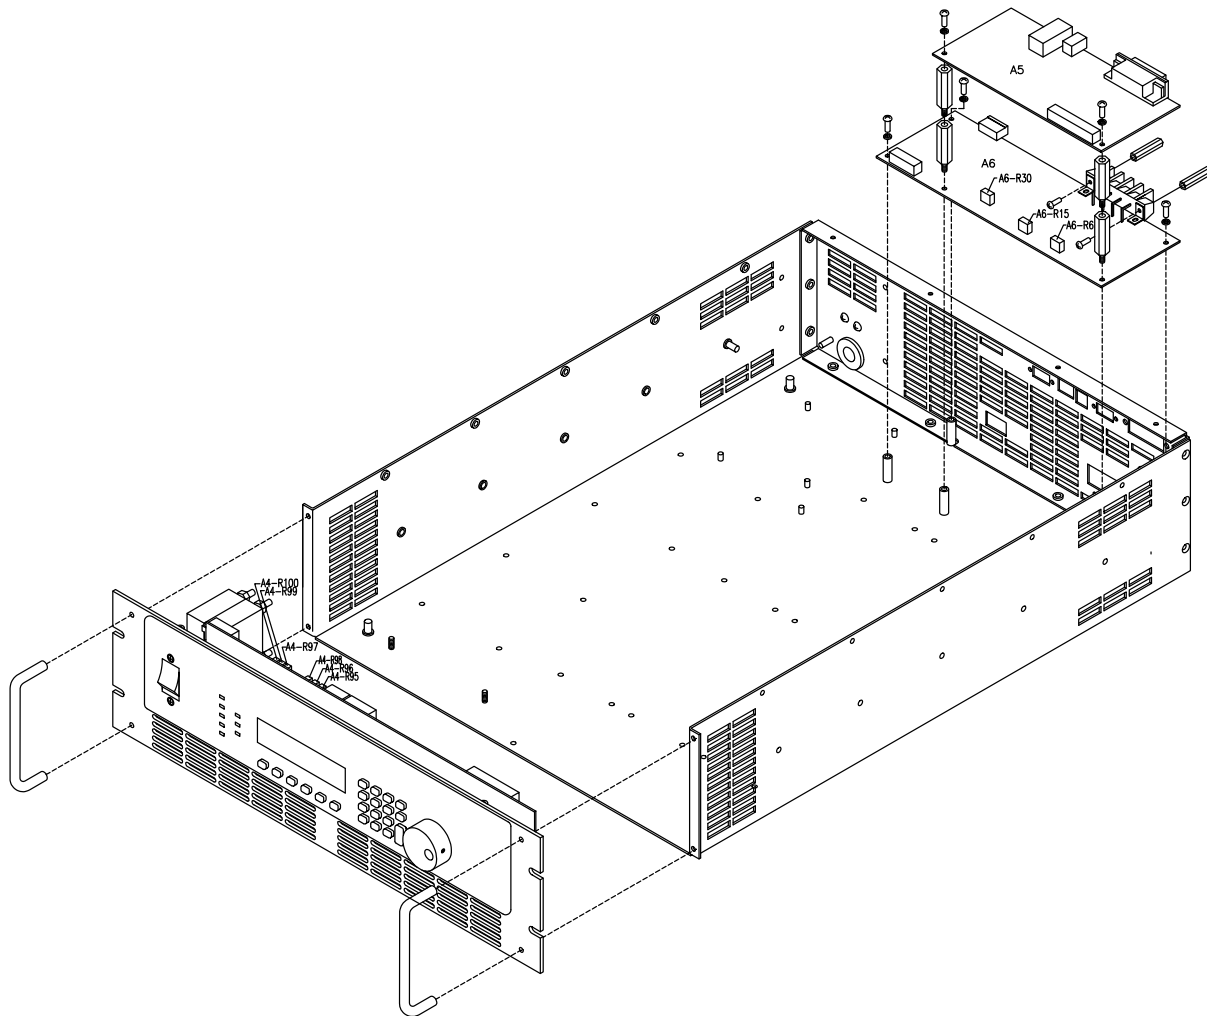

Figure 6-1: Internal adjustment locations.
4. Close the power source output relay and adjust R97 on the Controller (A4) for zero ± 5 mV. See Figure 6-1 for pot location on the controller board.
2. Program AC mode, 0.0 volts AC. Adjust R95 on the controller (A4) for the lowest AC output. See Figure 6-1 for pot location on the controller board.